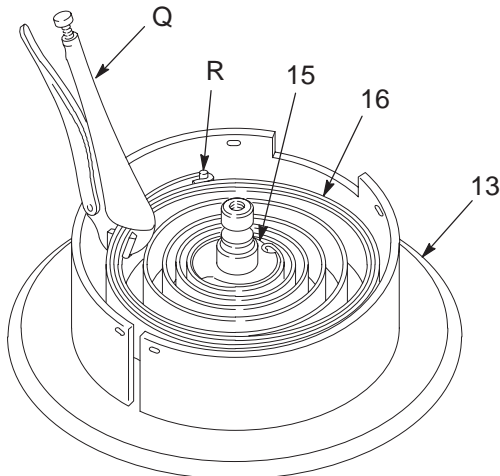

Fig. 11
Always use locking pliers (Q) to compress and hold several rows of the spring together when removing and installing a spring. See Fig. 11.
If either end of the spring (16) is worn or damaged and does not hook properly on the reel hub (15) or the pin (R) which is welded to the inside of the lower reel flange (13), replace the spring. See Fig. 11. If the pin is broken, the lower reel flange must be replaced.
To remove the spring, use a locking pliers (Q) to compress several rows of the spring together. Then lift out the spring. See Fig. 11.
To ensure proper spring operation, the spring and reel hub must be installed with the inside end of the spring hooked into the reel hub (15) and the outside end of the spring hooked to the pin (R). See Fig. 11 on page 23.